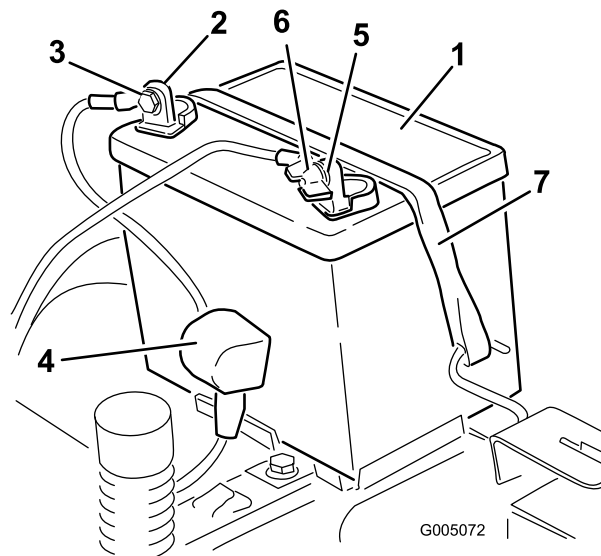

Figure 36
4. Disconnect the negative (black) ground cable from the battery post (Figure 36). Retain all fasteners.
5. Slide the rubber cover up the positive (red) cable. Disconnect the positive (red) cable from the battery post (Figure 36). Retain all fasteners.
6. Remove the battery hold-down (Figure 36) and lift the battery from the battery tray.
1. Position the battery in the tray (Figure 36).
5. Secure the battery with the hold-down (Figure 36).